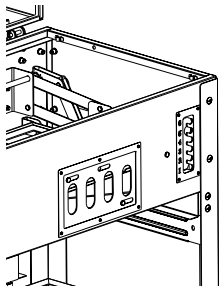
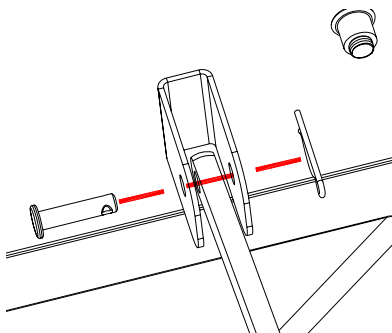

Fig. 13A
Fig. 13C
*Locate:* Charcoal Tray Lift System Lift Handle, (2) Hinge Pins and (2) “R” Clips
*Procedure:* Refer to Figs. 13A and 13B and Slide the Lift Handle through the adjusting slot and through the hole of the inside plate. Align the hole in the end of the Lift Handle with the holes in the “U” shaped bracket located at the back of the Cabinet. Join the Lift Handle and the “U” shaped Bracket by inserting a Hinge pin as shown in Fig. 13C.